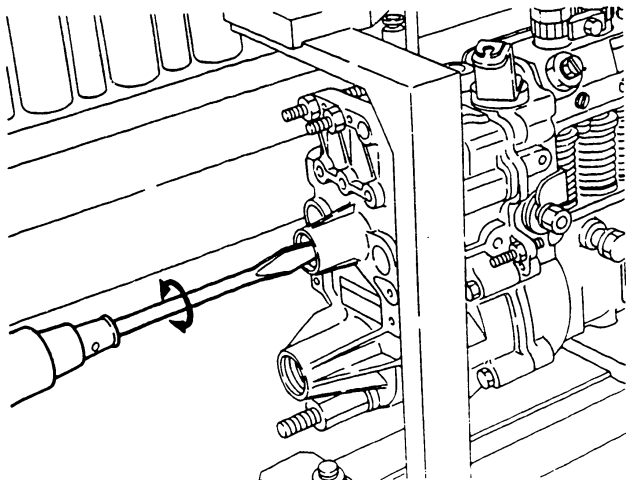

Fig. 192
- 1) Screw in the governor shaft fully, and hold the control lever at the idling position. (Fig. 192)